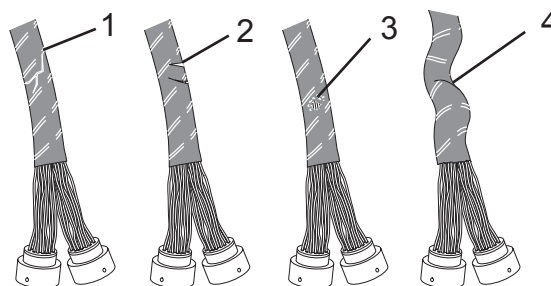

Figure 4
- Cracks (Figure 4, Item 1)
- Cuts (Figure 4, Item 2)
- Abrasion (Figure 4, Item 3)
- Twisting (Figure 4, Item 4)